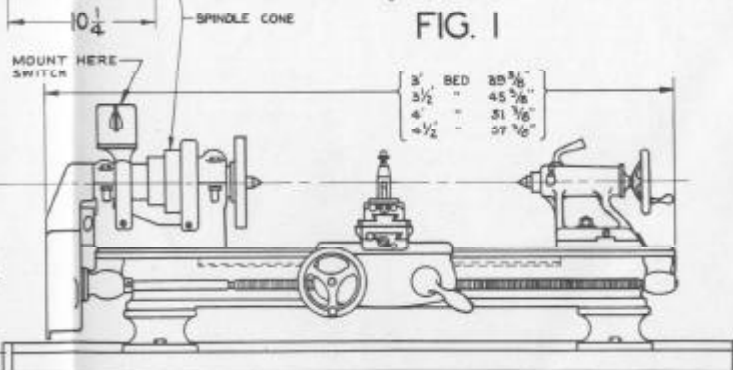

FIG. 1
1. SET THE LATHE ON BENCH TO DIMENSIONS SHOWN IN FIG. 1. SCRIBE AROUND INSIDE OF HOLES IN EACH LEG. REMOVE LATHE, DRILL BENCH FOR BOLTS, AND FASTEN LATHE TO BENCH.